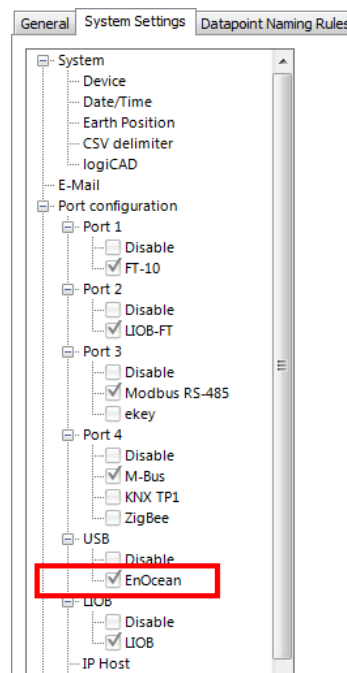

Figure 178: Enabling EnOcean in the Project Settings Dialog.
2. In the **System Settings** tab enable the EnOcean protocol on the USB port, as shown in Figure 178.